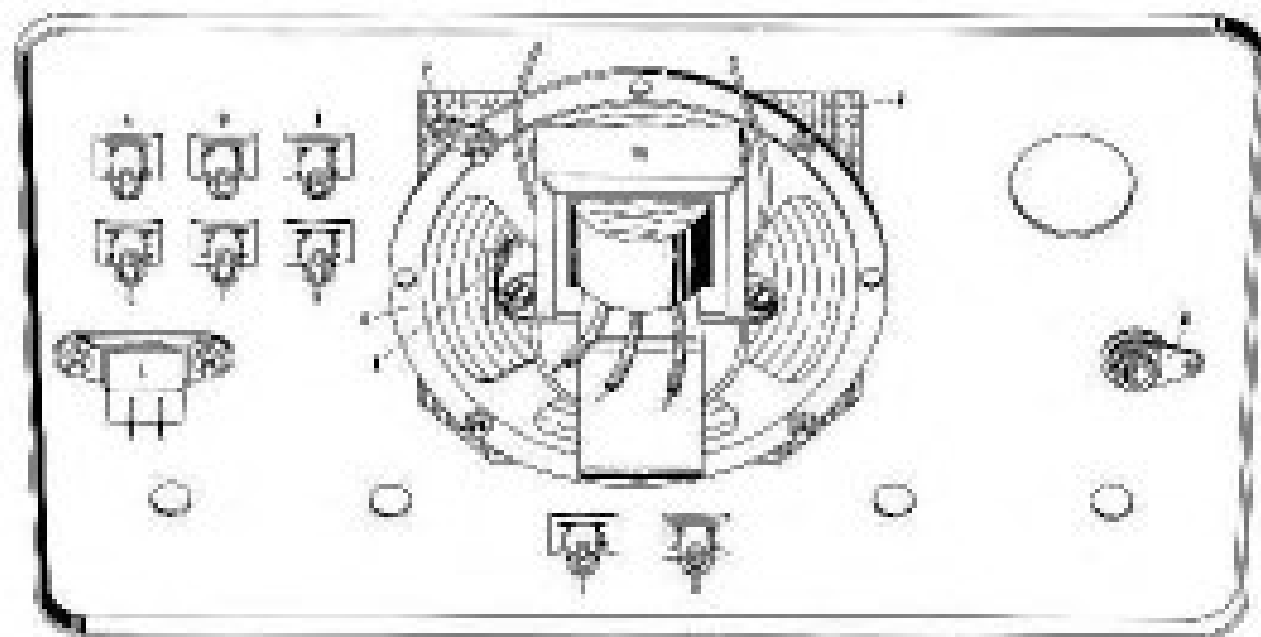

FIGURE 1
REFER TO FIGURE 1 THROUGH 3
- () 10. Install the INPUT coaxial connector in hole at panel location M. Use a control lockwasher, ground lug, and control hex nut. Orient ground lug to side of panel. See Figures 1 and 3.